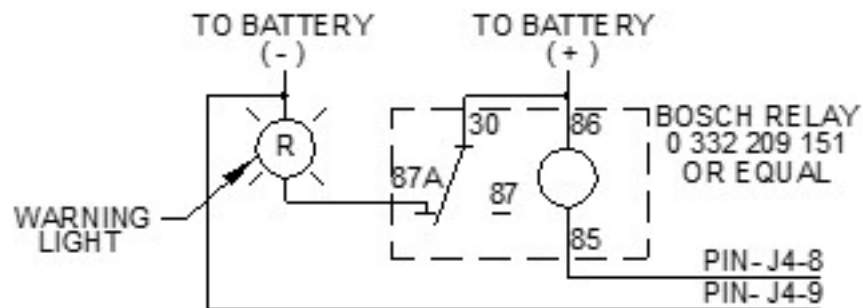

Figure 5-11 Example Vehicle Safety Interconnect Circuit
This relay output is from a bi-stable (latching) relay whose contacts either open or close (switch selectable) when the mast is active (not stowed). Its state is not affected by whether or not there is power to the mast. This contact is capable of carrying up to two (2) amperes and is available on pins J4-8 and 9 (data cable supplied by the installer). Figure 5-11 shows an example vehicle safety interconnect circuit. It can be used in conjunction with a customer-supplied relay to drive a flashing warning light. Other arrangements are possible.